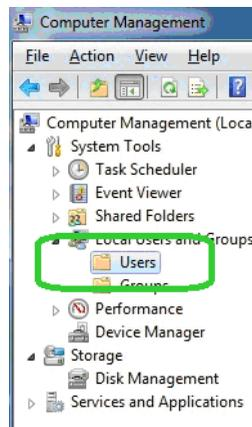

FIGURE 2-21 Computer Management - Users
Step 5 Click the **Users** folder, as shown in FIGURE 2-21.